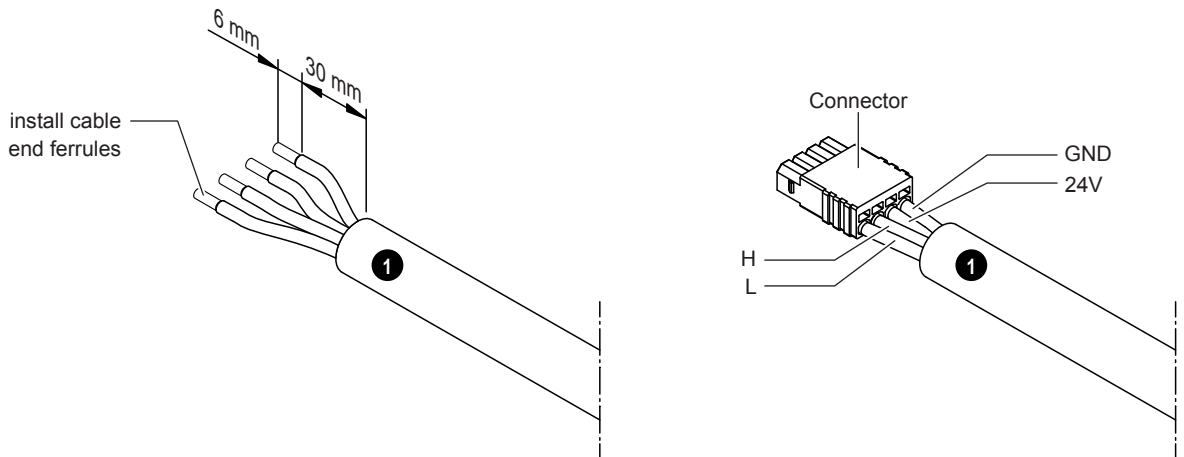
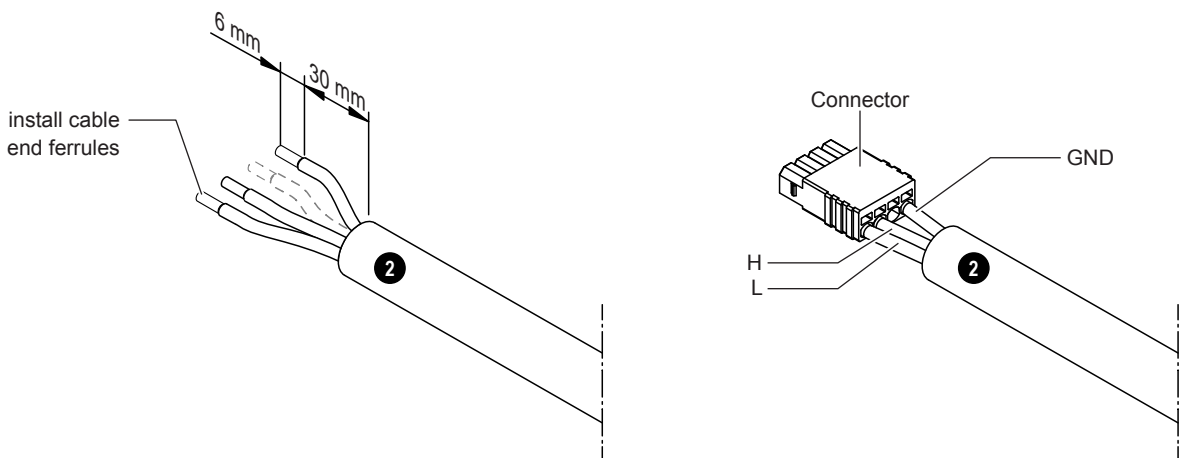

Fig. 7: Prepare CAN BUS cable for SPA Display connection
Fig. 8: Prepare CAN BUS cable for the connection between Condair Delta SPA Control Box and Condair Omega
3. Cut the CAN BUS cable(s) to length. Prepare the cable end(s) as shown in Fig. 8 (SPA Display connection) or Fig. 7 (connection cable Condair Delta SPA Control Box to Condair Omega), then connect the prepared cable ends to the the CAN BUS connectors.